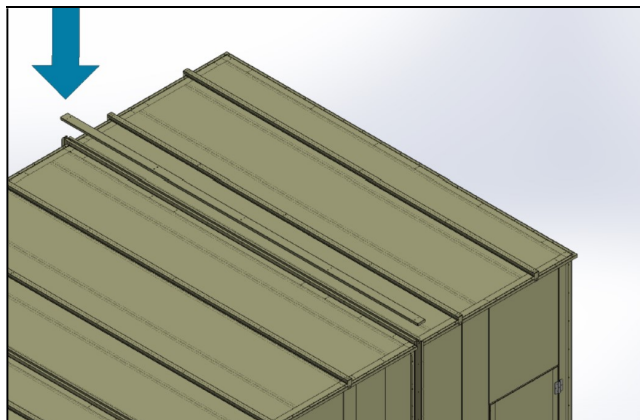

Figure 9: Cover flange for the roof
- For the joint roof, same type of cover flange will be supplied. And again, apply generously some sealant between the 2 pieces resulting a « T » at the unit roof before fixing the cover flange (**Figure 9**).